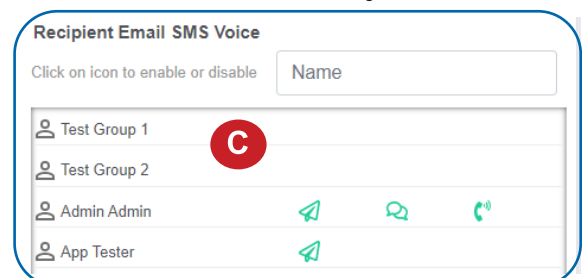

Figure 26
C. The **Recipient** list identifies who will receive the notification. See Figure 26.